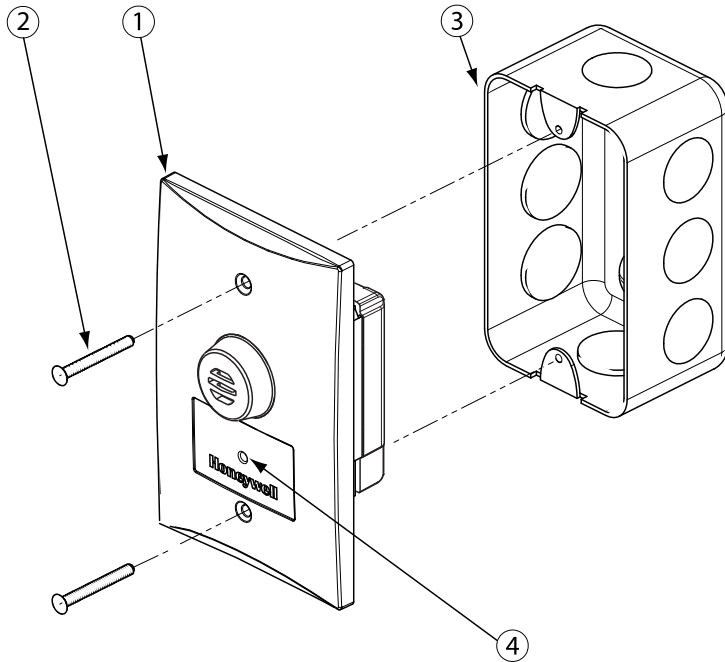

Figure 10. Parts of the Remote Sensor
- Connect the tubing from the regulator to the sensor calibration cap as shown in Figure 10.
- Connect the tubing from the regulator to the sensor calibration cap. See Figure 10.